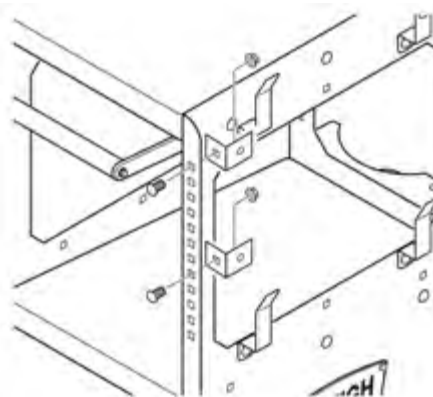

Figure 4-13
14. On the same side as the Cable Hooks, using two M8 x 20 Round-Head Square-Neck Carriage Bolts (item #2) with M8 Flanged Nylock Hex Nuts (item #4), attach two Mig-Tig Holder Brackets (item #22) to the Side Panel flange, as shown in Figure 4-13. Space these two brackets to meet your needs. **Fully-tighten these nuts.**